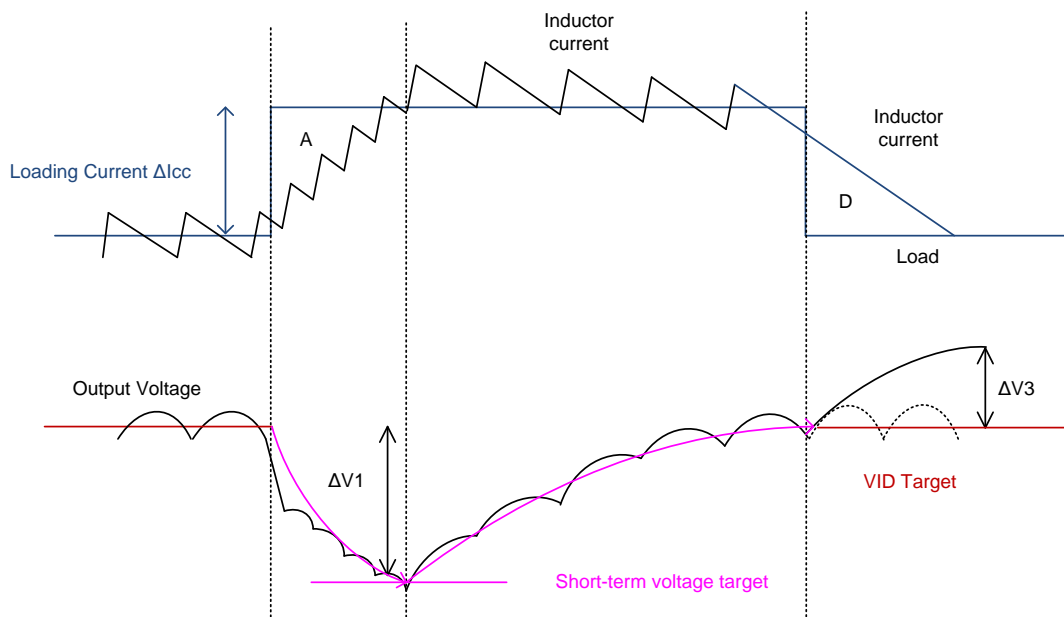

Figure 9. Zero Loadline with AC-droop Control
Figure 9 shows the condition with AC-droop control. While loading occurs, controller temporarily changes VID target to short-term voltage target. Short-term voltage target is related to transient loading current ΔI_{CC} and can be represented as the following :
where the V_{CS_SUM} is the sum of current sensing signal from DCR sensing or SPS current sensing. For DCR sensing, the $V_{CS_SUM} = V_{CS_SPSUM} - V_{CS_NSUM} = I_{OUT_SUM} \times DCR/N$. The current gain (AI) can be set by Pin Setting of AI Gain. Users can adjust AI gain by I²C register 0x41[3:2] to set desired short term voltage target. The short-term voltage target reverts to VID target slowly after approximately 100 μ s. The short-term voltage target can help inductor current not to exceed loading current too much and then the ring back can be suppressed. Referring to Figure 9, the overshoot